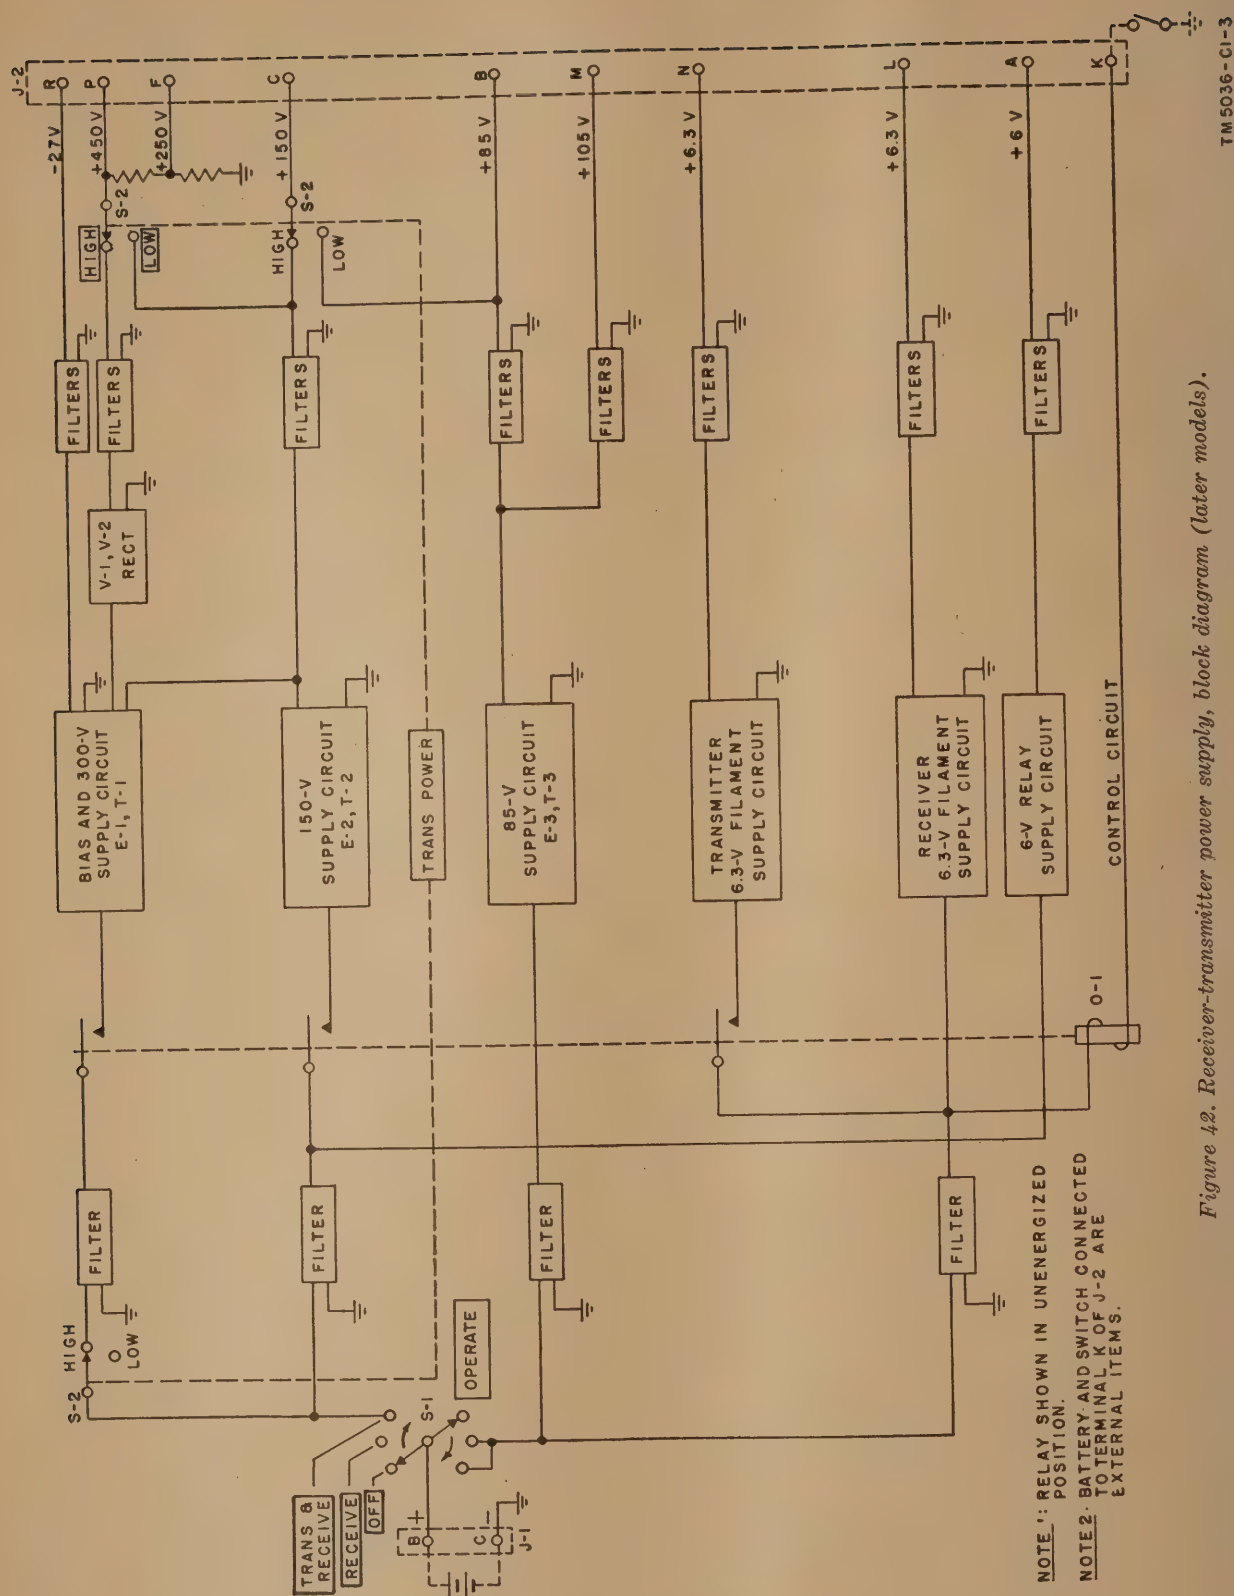

Figure 42. Receiver-transmitter power supply, block diagram (later models).
The discussion of unit theory is limited to block diagram analyses of the major units. Although the maintenance information included in this manual is at an organizational level only, familiarity with the block diagrams of the units will be helpful in trouble shooting. A knowledge of which tubes are receiving tubes and which tubes are transmitting tubes, for example, will aid in the replacement of parts for which the operator has running spares. The block diagrams are shown in figures 42 through 45. Complete schematic diagrams for all units are included as additional information for maintenance personnel (figs. 73 through 93). Resistor and capacitor color and letter codes also are included (figs. 98 and 99).
84. Receiver-Transmitter Power Supply (fig. 42)
a. Figure 42 is a functional block diagram of Power Supply PP-109/GR or Power Supply PP-112/GRC. It shows the three h-v circuits and the three l-v circuits supplied from the storage battery input terminals. The h-v circuits are used to provide the plate, screen, and bias voltages for the receiver and transmitter circuits in Receiver-Transmitter RT-66/GRC, RT-67/GRC, or RT-68/GRC. The l-v circuits supply the receiver-transmitter filament and relay potentials.
c. The l-v circuits include the receiver filament supply circuit with output at terminal L of J-2, the transmitter filament supply circuit with output at terminal N of J-2, and the relay supply circuit with output at terminal A of J-2. On later models of the power supply, the 6-volt relay supply circuit is completed only when S-1 is in the TRANS & RECEIVE position (fig. 42).